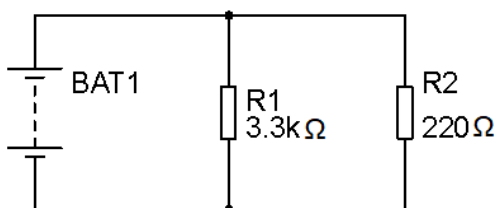

Figure 5 – Circuit 2
b) Find the total resistance of the circuit shown in Figure 5 below. Show all your working.